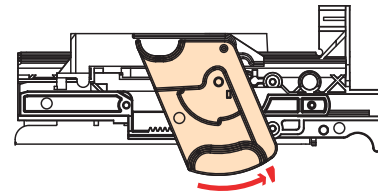

Figure 4-15
7. Turn the closing lever back; the brewer will close again (see figure 4-15).